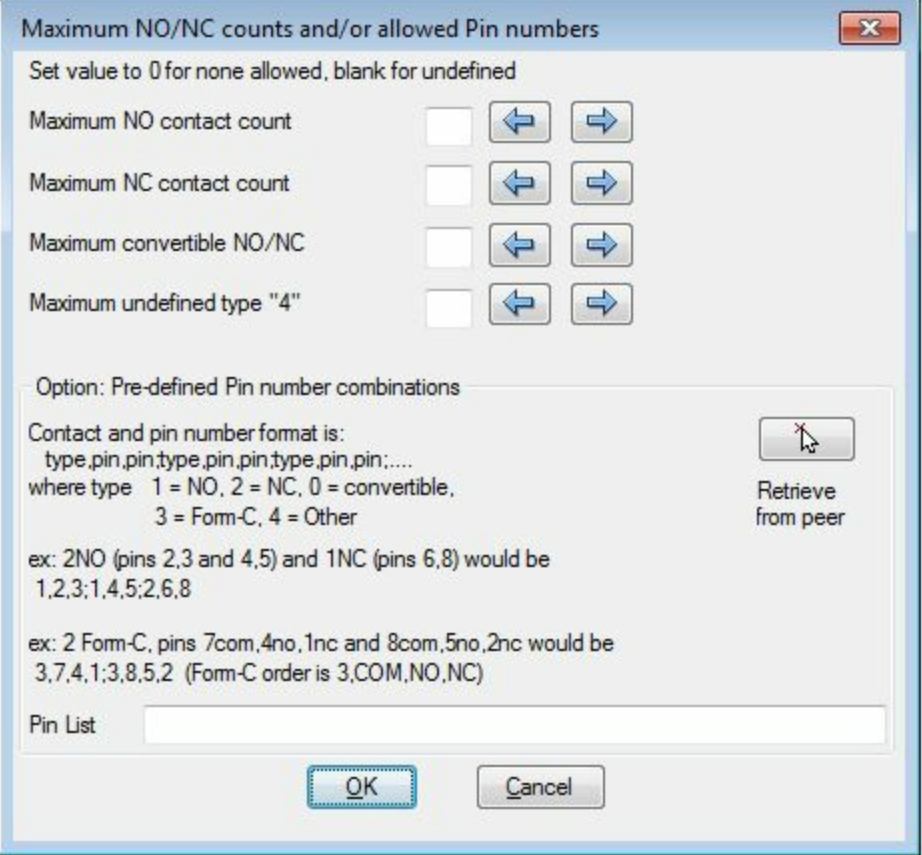

Figure-14. Maximum NO or NC counts dialog box
- A switch generally has two pins, but if you are working on PLC or other integrated circuit components then you need to setup NC/NO for all the pins of components. To do so, click on the **NO/NC Setup** button. The **Maximum NO/NC counts and/or allowed Pin numbers** dialog box will be displayed; refer to Figure-14.